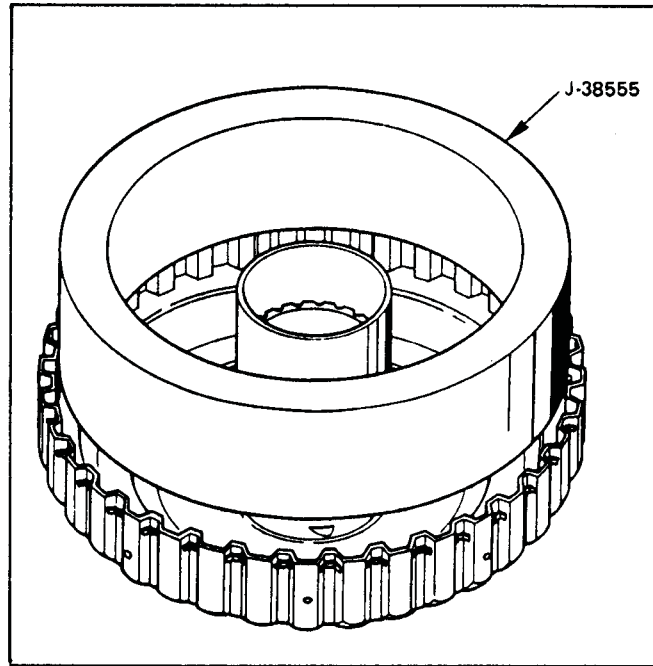

Figure 65
4. Use the outer seal protector while pushing piston into housing (Refer to Figure 65).